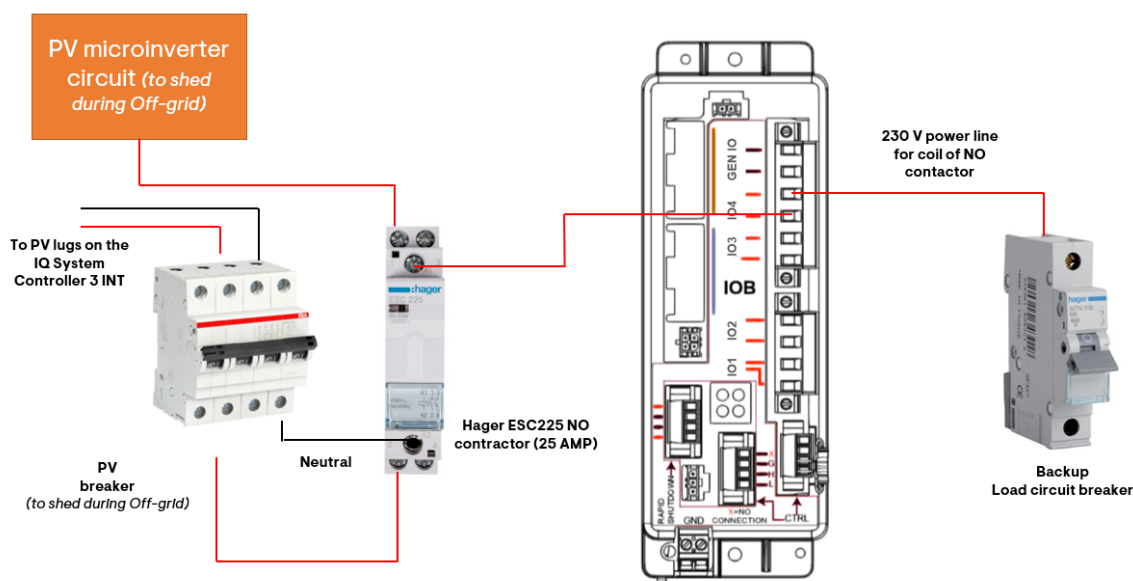

Figure 1: Block diagram of PV shedding on NO contactor setup
1. Connect the PV/load shedding circuit breaker to the NO contactor and connect the microinverter/load circuit to the output of the NO contactor, as shown in Figures 1 and 2.